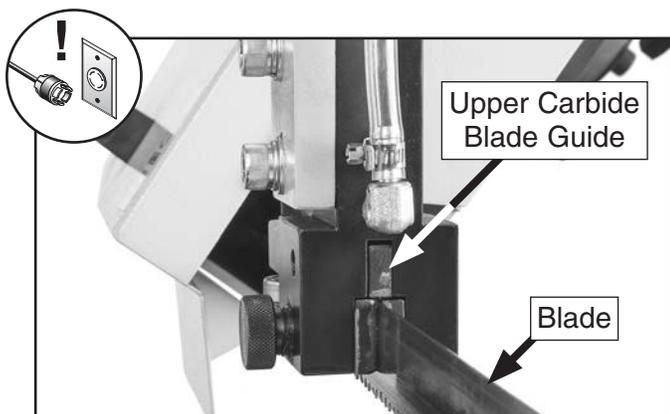

Figure 81. Upper carbide blade guide location.
5. On left blade guide, verify back of blade lightly contacts upper carbide blade guide (see **Figure 81**).